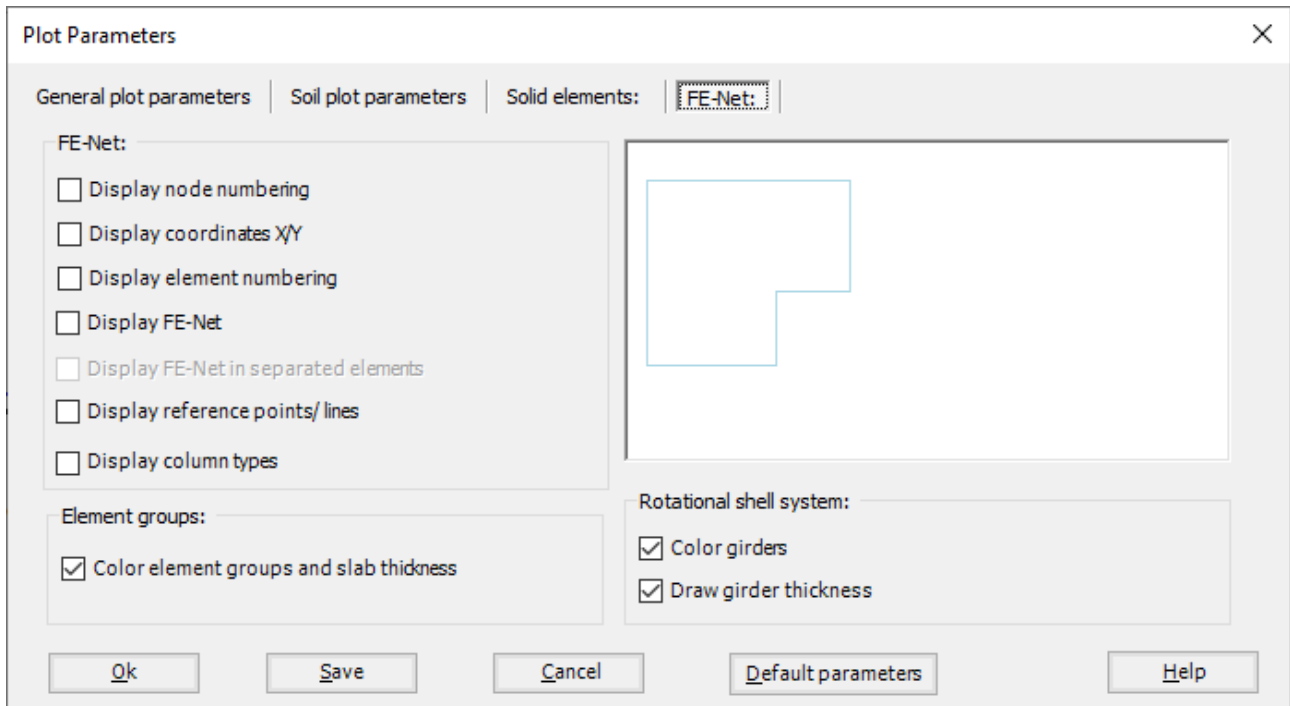

Figure 2.31 "Plot Parameters" dialog box
- Choose "Plot Parameters" command from "Setting" Tab. The "Plot Parameters" dialog box in Figure 2.31 appears